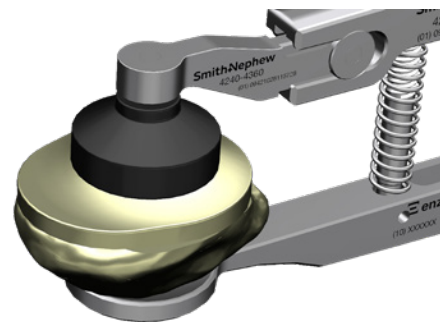

Figure 51
4. Clamp the patellar implant into the bone and remove the extruded cement (Figure 51)..